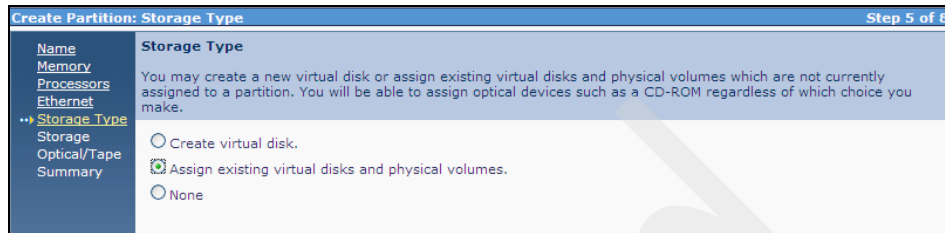

Figure 7-26 Select storage type
- Figure 7-26 on page 268 shows an example of the selection for disk units to use in the partition. You can use virtual disks or physical disks. For an IBM i partition, use physical volumes. Selecting virtual disks will work, but you might have performance issues in the partition. Also assumed at this point is that you have previously configured LUNs or have physical units available to assign to this partition.